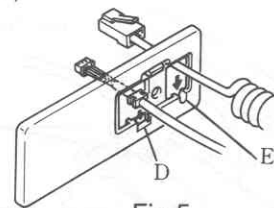

Fig.5
- Fit the cord bushing on the panel cable into the front panel (Fig.5-D), fix the panel cable, and install the cover. (Fig.4-A)